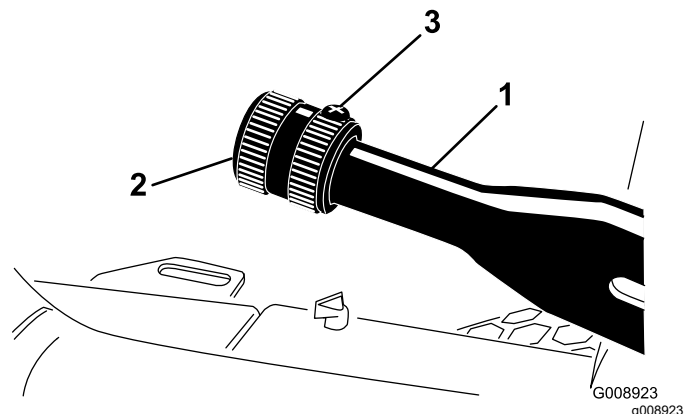

Figure 77
2. Loosen the setscrew securing the knob to the parking-brake lever (Figure 77).